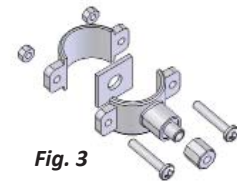

Fig. 3
1. Position drain saddle assembly (Fig. 3) on drain pipe under sink between the "P" trap and the sink connection.